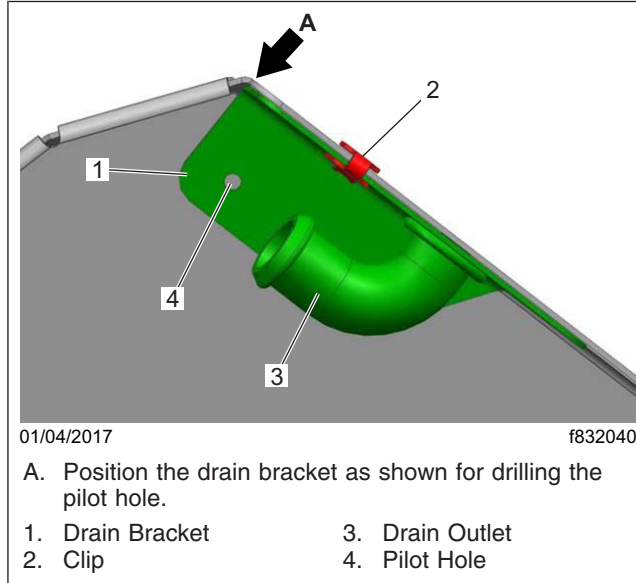

Fig. 2, Drilling the Pilot Hole
4. Using the small hole in the drain bracket as a guide, to drill a pilot hole in the fresh-air intake duct. See Fig. 2.